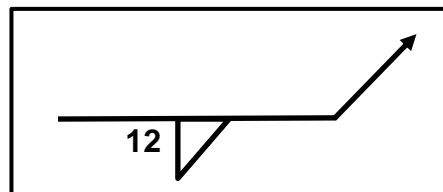

FIGURE 4.3
4.3 What does **12** in FIGURE 4.3 below represent of the weld?